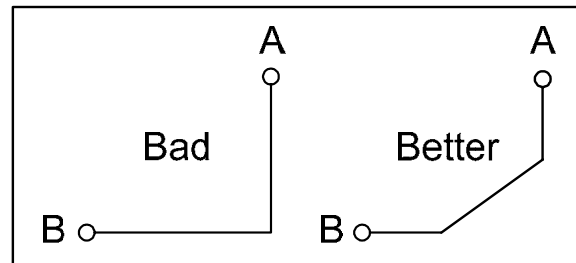

Figure 5. Signal Trace Angles
- Ninety-degree trace turns must be avoided. We recommend that the traces turn at 45° angles as shown in Figure 5. Sharp edges may add unexpected parasitic effects into the circuitry. Reducing the trace length will reduce trace inductance during quick energy bursts.